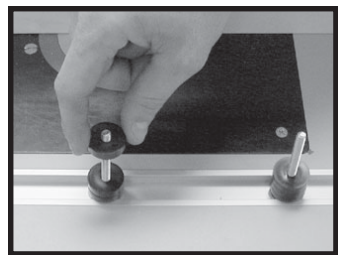

fig. 2
- 4) Drop 1/4" spacers onto bolts until you reach the desired height (fig.2).